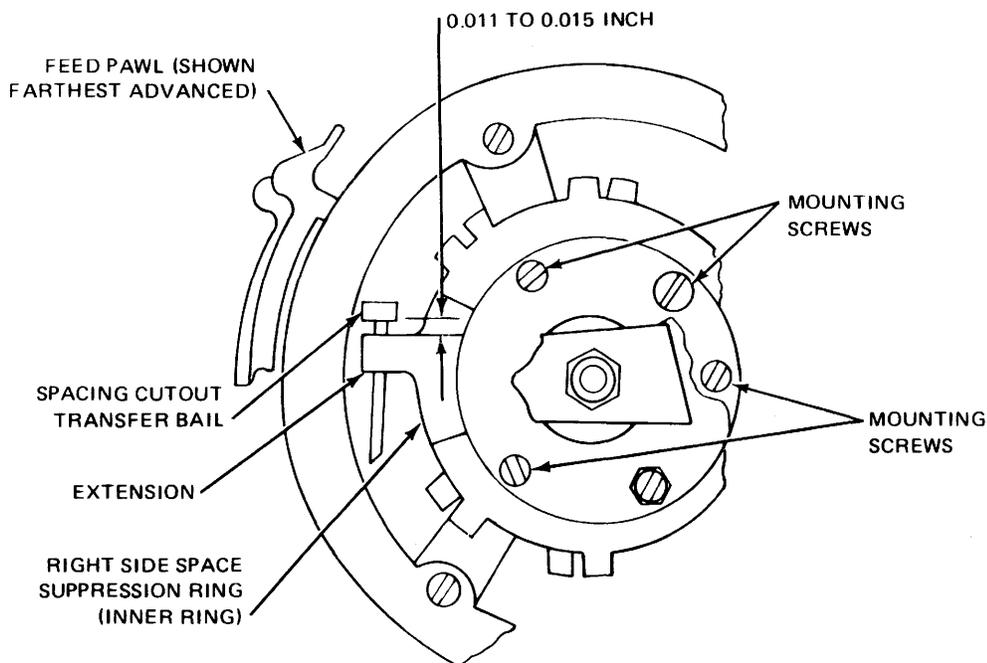

Figure 6-3. Right Margin Adjustment.
4. Adjust right margin (see figure 6-3).
f. Loosen mounting screws (see figure 6-3).